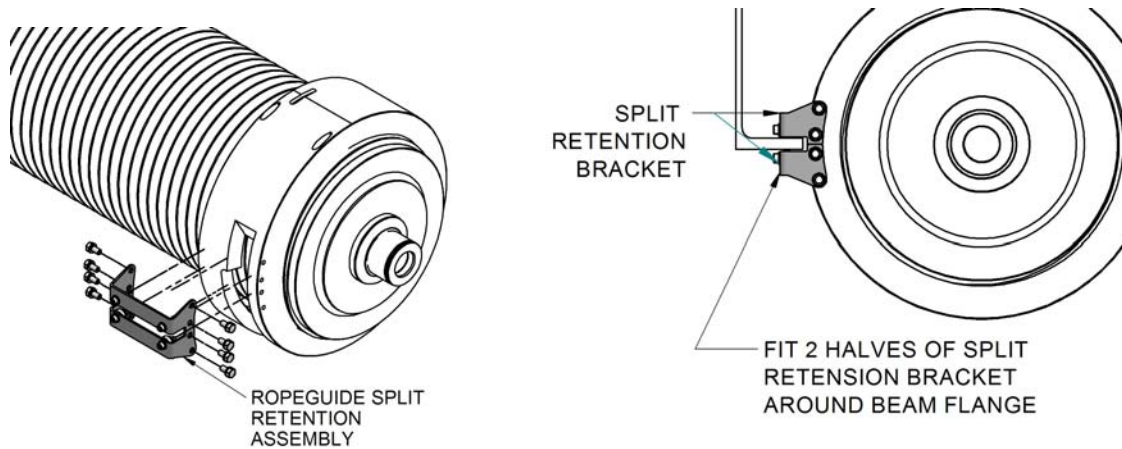

Figure 35 – Split Retention Bracket Assembly
- Remove the rope guide split retention bracket (see Figure 35) from the rope guide and release the 4 screws in the rope guide joint. Take care to ensure the lower half of the guide does not fall.
- Fit the Retention split plate assembly to the rope guide assembly, fitting the two split assembly halves around the beam flange. Locate and tighten the 8 x M8 setscrews to 5Nm (see Figure 35).